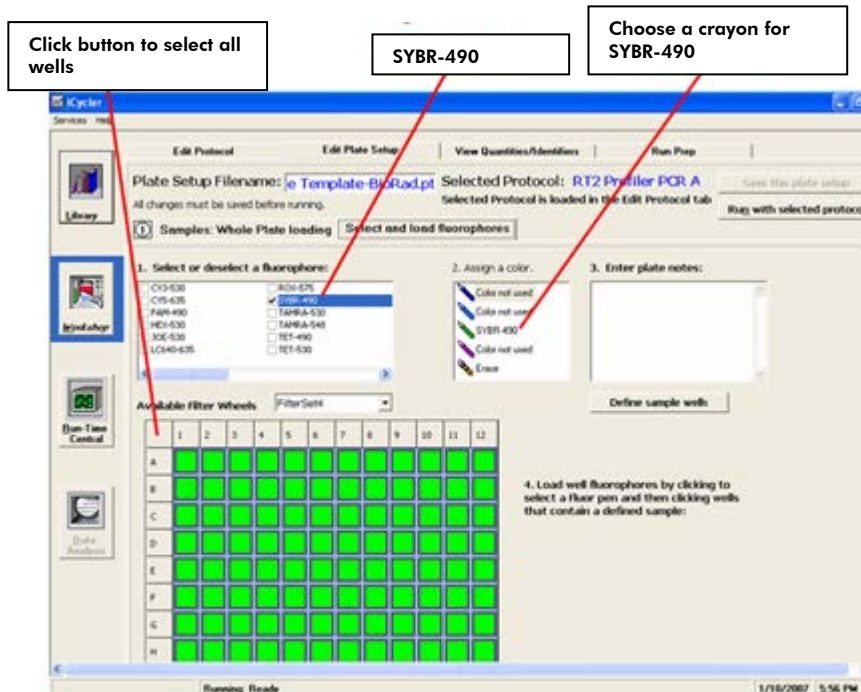

Figure 3. Plate setup — fluorophore loading.
4. When finished loading samples, click on “Select and Load Fluorophores” (see Figure 3). Select “SYBR-490” as the fluorophore by clicking the box next to the fluorophore in the “Select or Deselect a Fluorophore” box. Assign a color for SYBR-490 by clicking on one of the crayons. With the “SYBR-490” crayon selected, load fluorophore to all wells by clicking the top left corner of the plate to select all wells at once. Enter “EpiTect CHIP PCR Array Plate Setup Template” as the new filename in the “Plate Setup Filename” box and click “Save this plate setup” to save the file as a *.pts file.